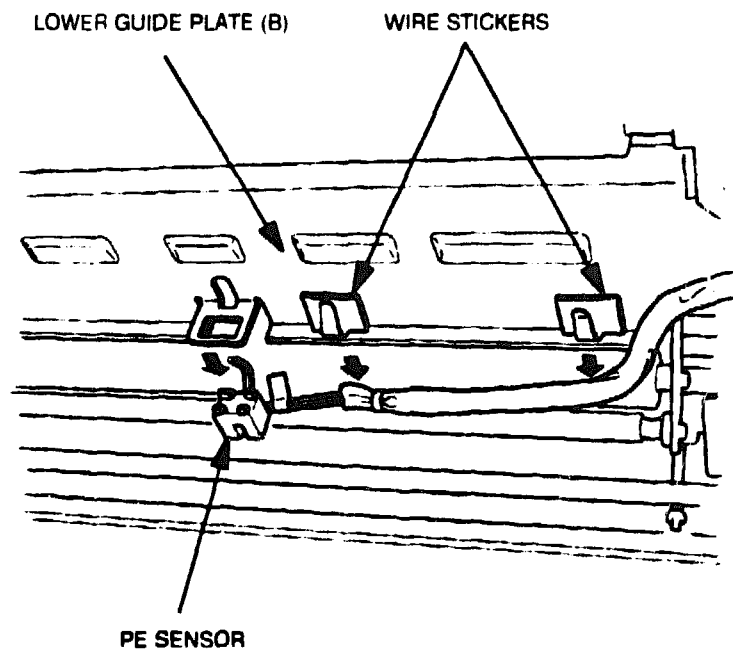

Figure 6-33 PE Sensor on Lower Guide Plate (B)
7. Press the locking tabs inward to release the lower paper sensor (PE sensor) shown in Figure 6-33.
8. Remove the PE sensor while being careful not to damage the sensor lever (see Figure 6-33). Then remove the cable from the wire stickers on the lower guide plate (B).